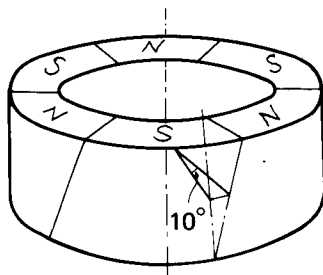

Fig. 2
5. The inner surface of the rotor magnet possesses 6 magnetic poles. As shown in Fig. 2, these are tilted by  $10^\circ$  relative to the vertical axis.